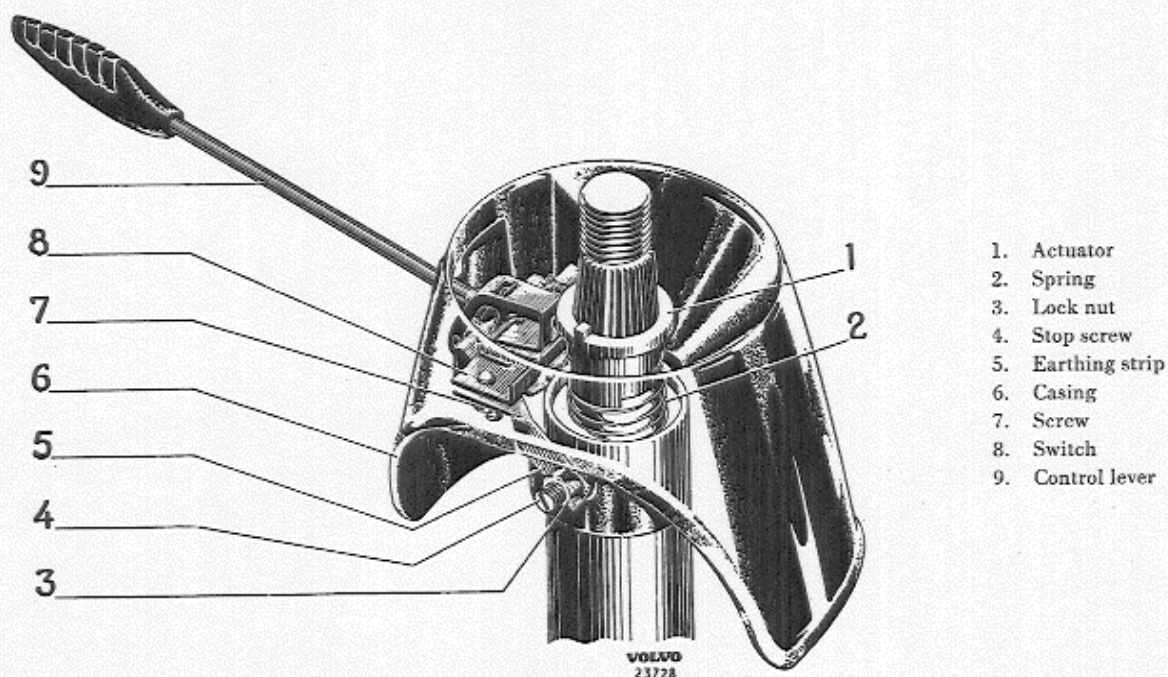

Fig. 24. Traffic indicator switch.
3. Slacken the lock nut, (3, Fig. 24) and screw out the stop screw (4) a few turns.
The traffic indicator switch can be adjusted by slackening the screw (4, Fig. 24) and then turning the casing with switch to the desired position. A space of about 2 mm (5/64") should be left between the steering wheel and casing.